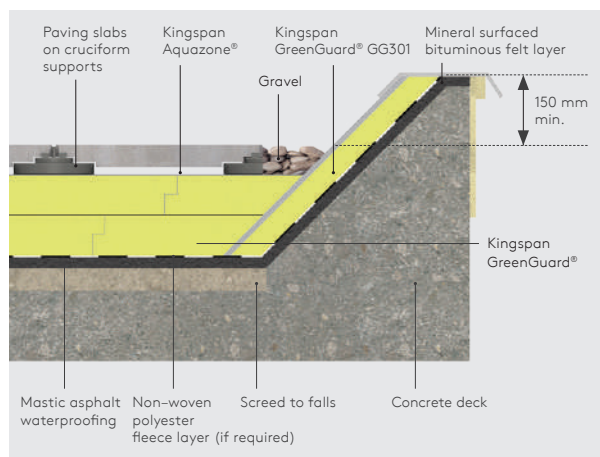

Figure 6 - Eave / kerb detail
- For best thermal performance, roof-lights and ventilator kerbs should be insulated with the same thickness of Kingspan GreenGuard® GG301, with a separate backing layer of Kingspan GreenGuard®, as the general roof area (see Figure 6).